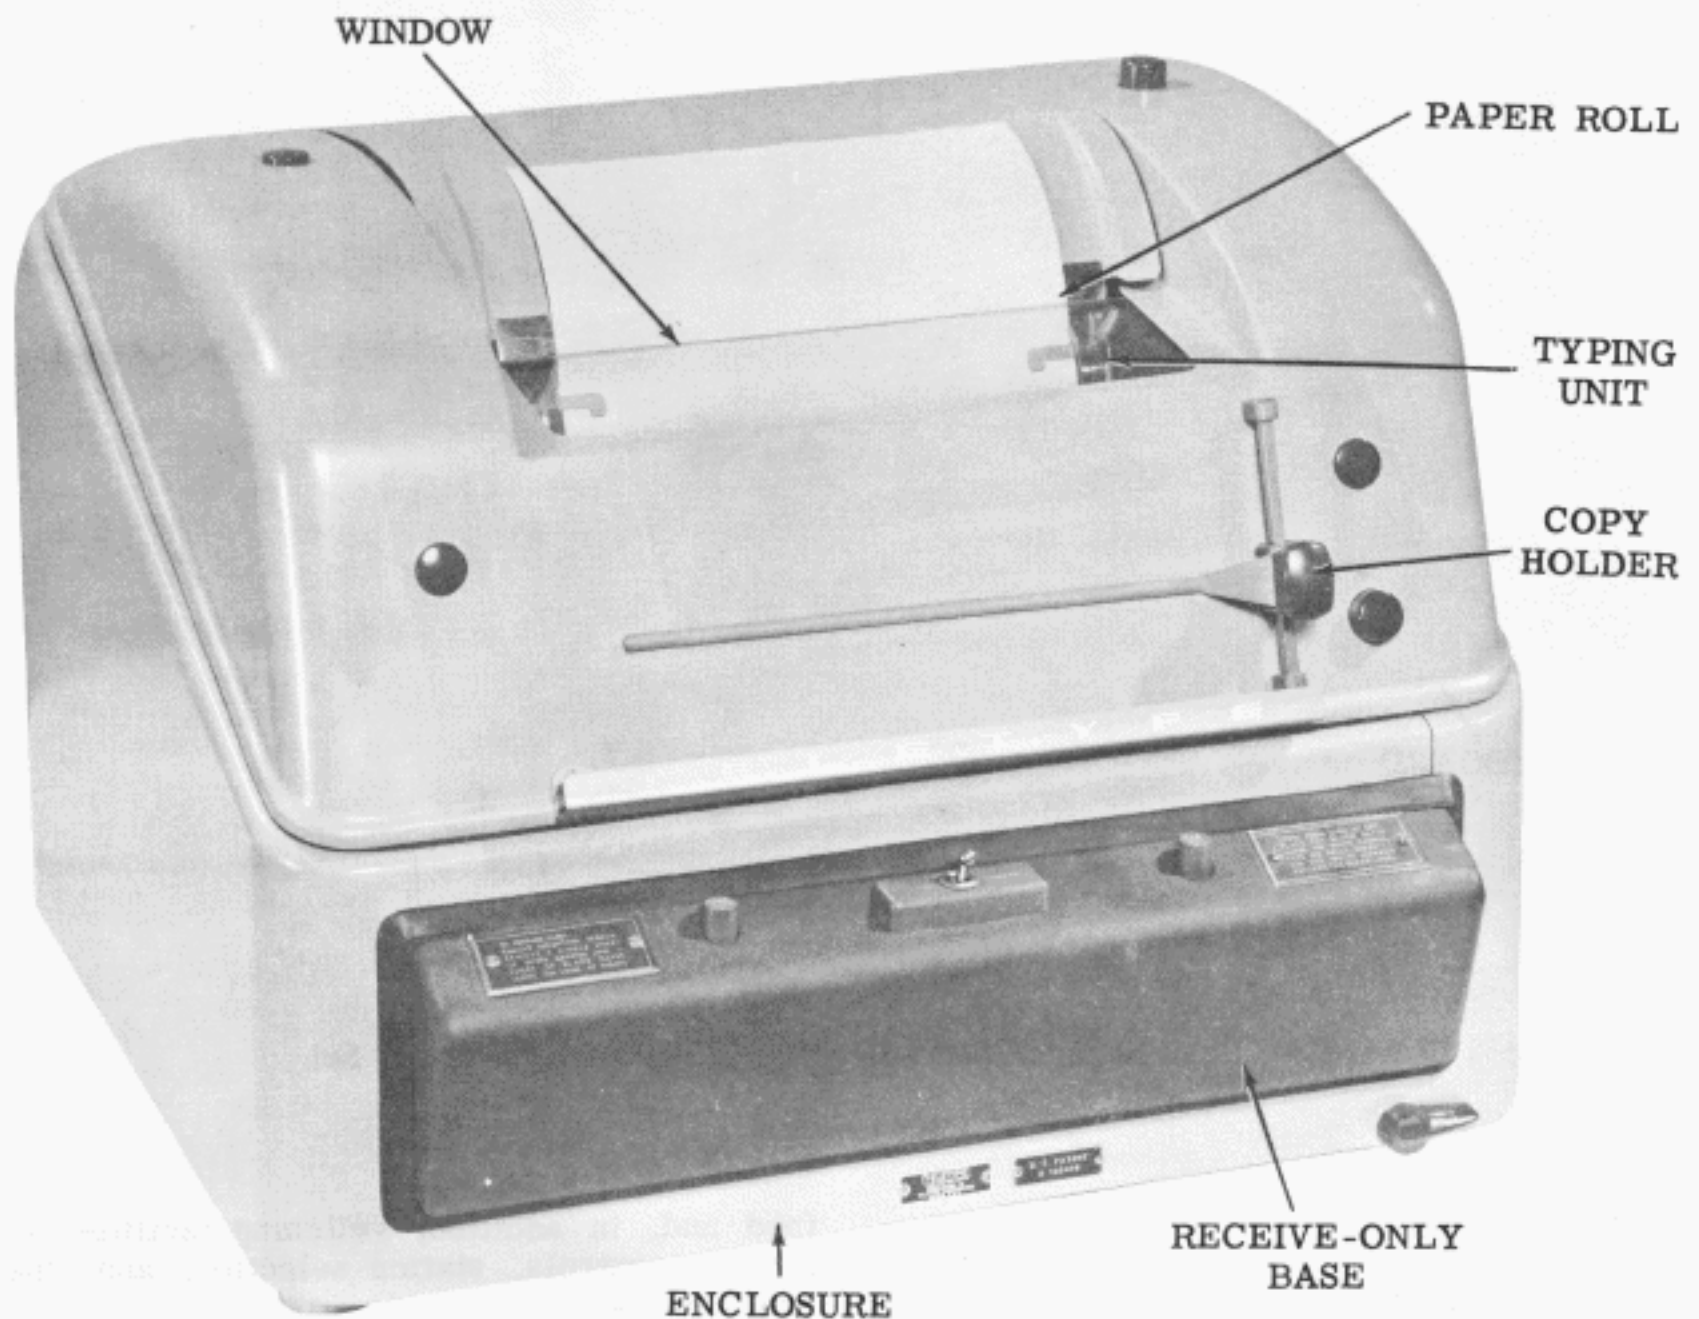

Figure 2 - Table Model Receive-Only (RO) Teletypewriter Set
- (b) Table Model Set - Identical to the Floor Model Set except that it contains no additional space and it rests on a table (Fig. 2).
SEND-RECEIVE KEYBOARD AND RECEIVE-ONLY BASE (Figs. 2 and 6)